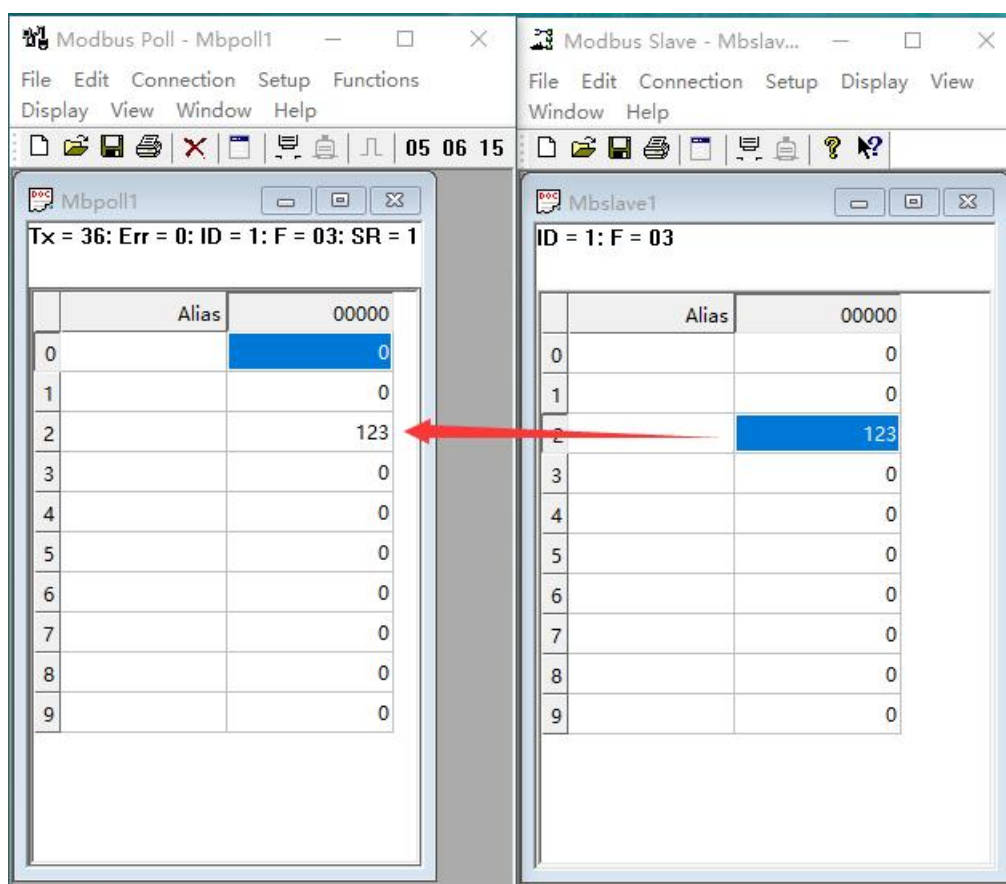

Figure 6-27 MODBUS communication test
7) Click "Connection" to realize the connection, as shown in Figure 6-27.